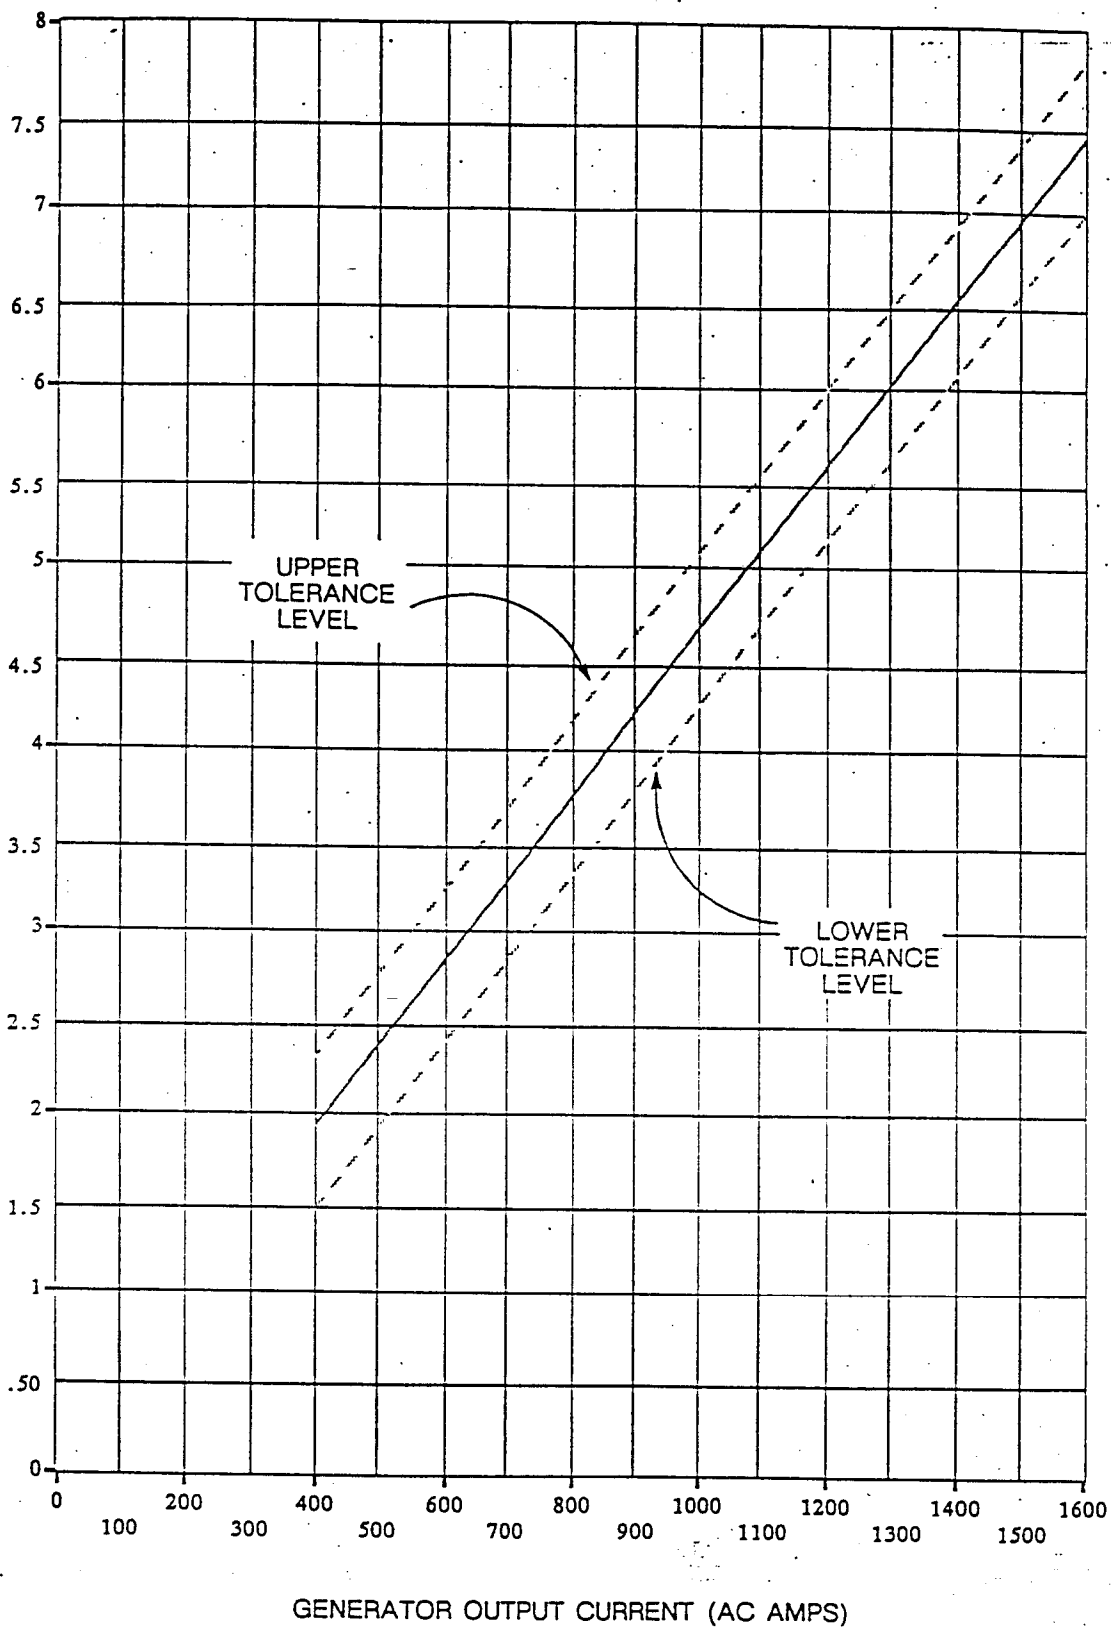

FIGURE 3-1 CURRENT LIMITER CALIBRATION CHART.
- p. Compare reading with Current Limiter Calibration Chart Figure 3-1 or Current Limiter Calibration Chart in technical manual, if reading outside tolerance, redo adjustment procedure.